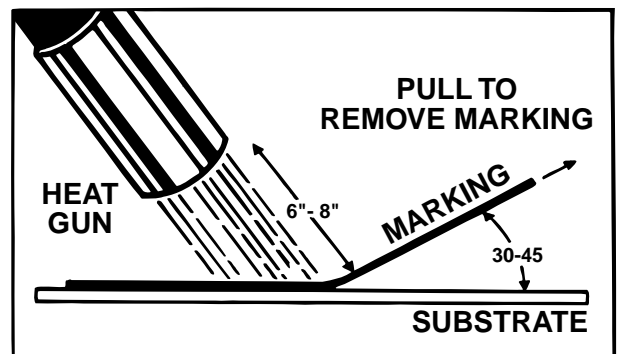

Figure 1
1. Heat one corner of the markings with an industrial heat gun until hot to touch. (See Figure 1)